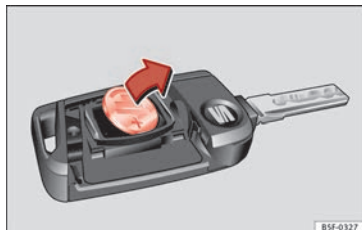

Fig. 134 Vehicle key: removing the battery.
- Extract the battery from the compartment using a suitable thin object » **Fig. 134**.
- Place the new battery in the compartment as shown » **Fig. 134**, pressing in the opposite direction to that shown by the arrow » ⚠.